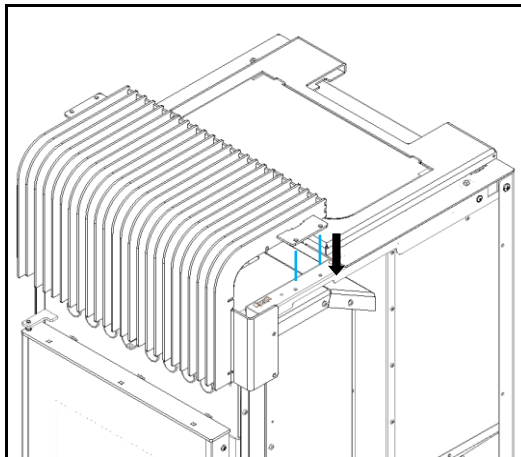

Figure 87 – Fitting the front grille
e) Finally, screw **C** (DIN 7981 4,2x9,5), in hole 5, as shown in Figure 87.